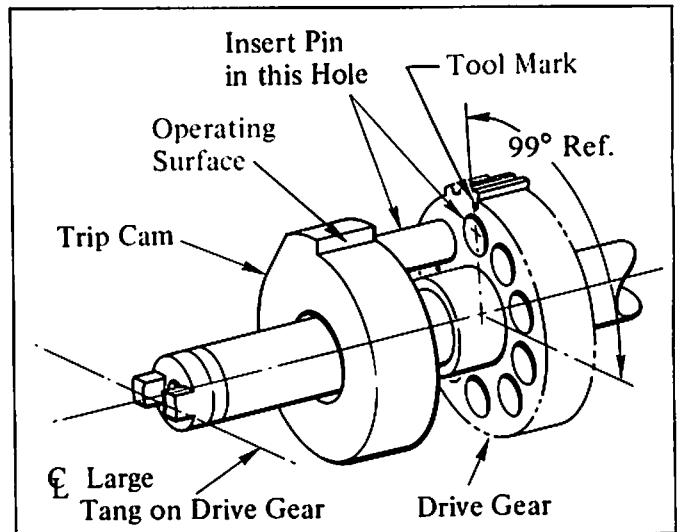

Figure 6. Trip Cam Positioning for First Stage Knockoff.
8. Push the trip cam to the left to disengage it from the drive gear (Figure 6).
9. Rotate the trip cam until its operating surface is straight up (Figure 6). In this position, the operating surface pulls the rake when the desired number on the first character wheel is displayed in the window.
10. Engage the trip cam with the drive gear (Figure 6).